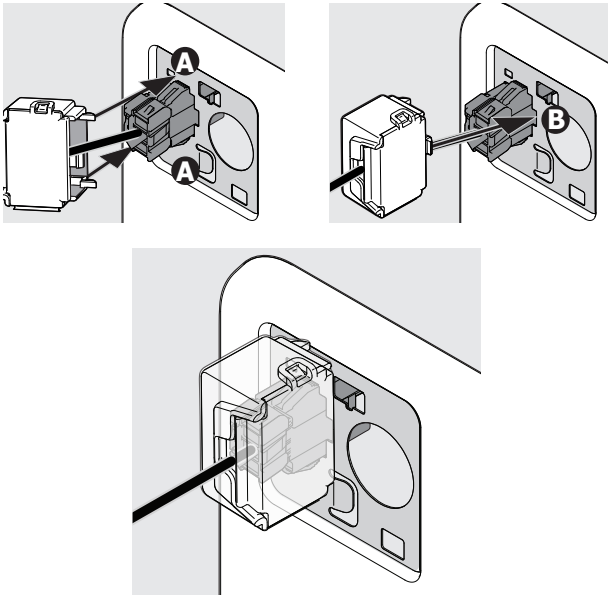

Figure 8
9. Slide the ice maker connector cover over the connector (hook on left **A**, snap on right **B**). See Figure 8.